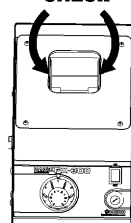
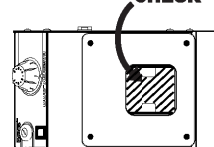

Fig. 3
Fig. 4
- Around the heater of the unit, insides of the heat insulator (Fig.3 and Fig.4)